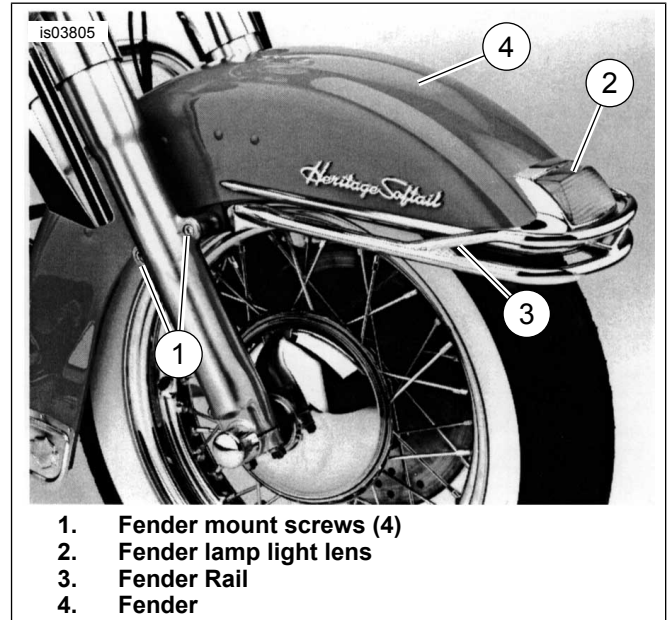

Figure 1. Installed Front fender Rail
See Figure 1. Be careful not to crack plastic fender lamp lens (2) or chrome plate when removing lens.
1. Remove fender lamp light lens (2) by placing screwdriver in slot in top of lens and carefully prying cover loose. Retain lens and gasket for later installation.
2. Loosen four hex socket head screws (1) which attach fender (4) to fender mount.